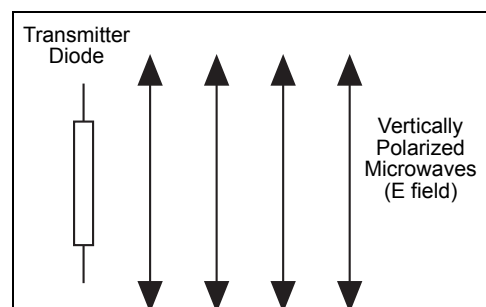
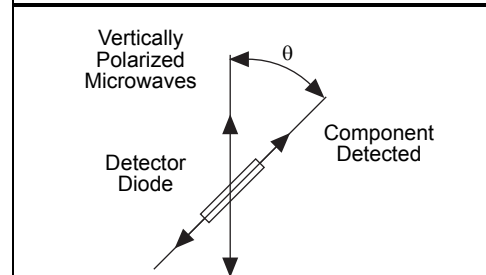

Figure 5.1: Vertical Polarization
Figure 5.2: Detecting Polarized Radiation
The microwave radiation from the Transmitter is linearly polarized along the Transmitter diode axis (i.e., as the radiation propagates through space, its electric field remains aligned with the axis of the diode). If the Transmitter diode were aligned vertically, the electric field of the transmitted wave would be vertically polarized, as shown in Figure 5.1. If the detector diode were at an angle θ to the Transmitter diode, as shown in Figure 5.2, it would only detect the component of the incident electric field that was aligned along its axis.
- If the Receiver meter reading (**M**) were directly proportional to the electric field component (**E**) along its axis, the meter would read the relationship $M = M_0 \cos \theta$ (where θ is the angle between the detector and Transmitter dipoles and M_0 is the meter reading when $\theta = 0$). (See Figure 5.2). Graph your data from step 2 of the experiment. On the same graph, plot the relationship $M_0 \cos \theta$. Compare the two graphs.
- Can you explain the results of step 6 of the experiment. How can the insertion of an additional polarizer increase the signal level at the detector? (HINT: Construct a diagram like that shown in Figure 5.2 showing (1) the wave from the Transmitter; (2) the wave after it passes through the Polarizer; and (3) the component detected at the detector diode.)